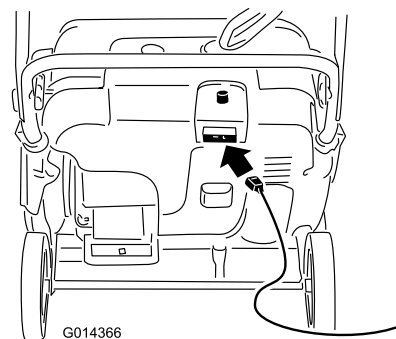
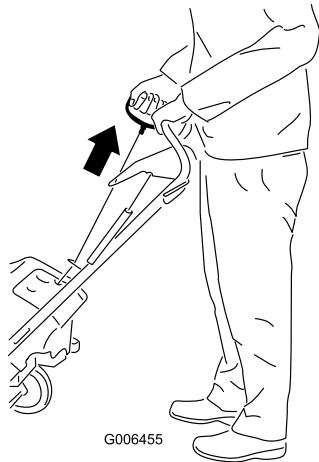

Figure 17
Figure 18
- Connect an extension cord to a power source and the machine, and push the electric-start button (model 38454 only) (Figure 17), or pull the recoil start handle (Figure 18).